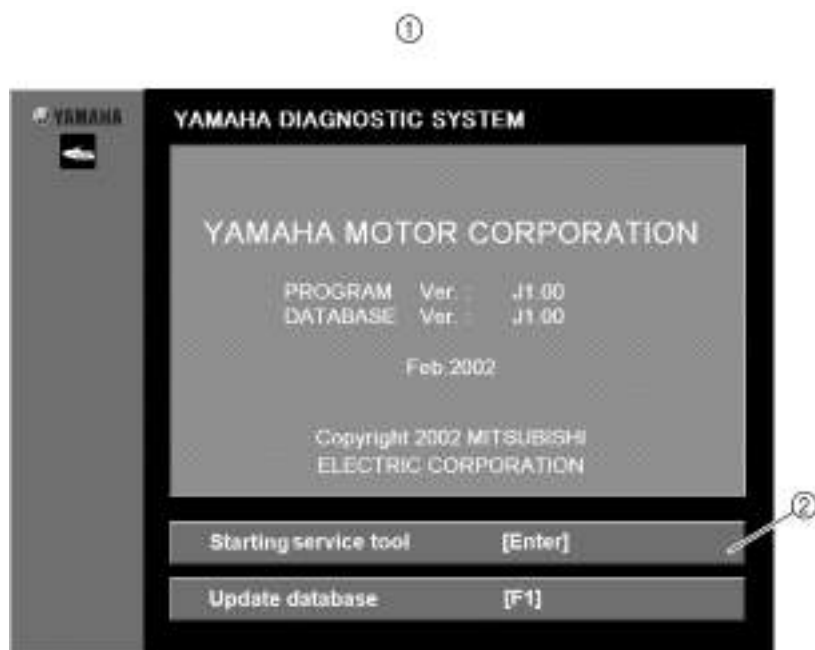

Fig. 21
4. Open the Yamaha Diagnostic System window. (Fig. 20) After about three seconds the display will automatically go to the first menu, or click or press any key to go to the first menu. (See fig. 21.)
- Click the **Starting service tool [Enter]** button or press the Enter key on your keyboard. (Fig. 21)